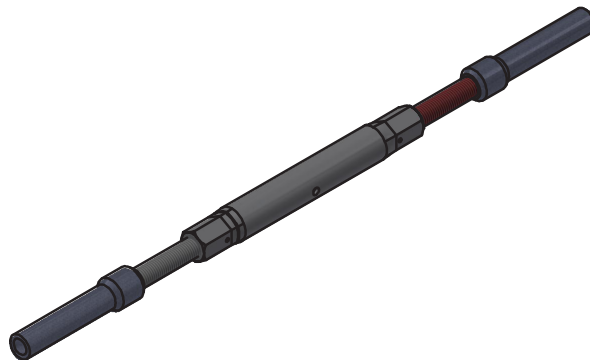

Figure 16
3. While rotating the turnbuckle, prevent the two threaded ends from rotating. Rotate the turnbuckle until both of the threaded ends can be seen through the sight holes at the end of the turnbuckle or both threaded ends are into the turnbuckle beyond the 1 1/2" [38 mm] mark. See Figure 16 for the complete assembly.